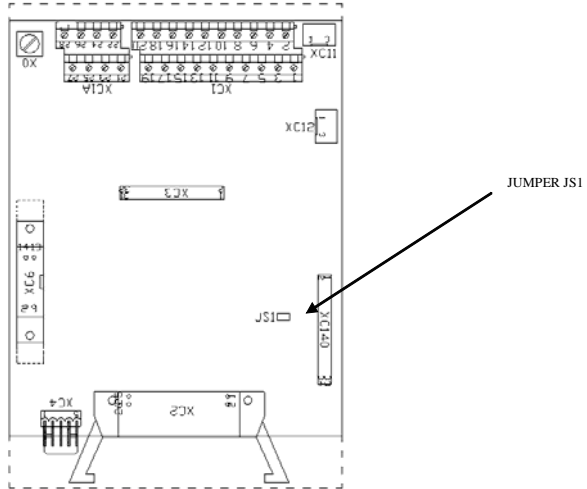

Figure 18 - Jumper JS1 on the CC9 control board
- Connect jumper JS1 on the CC9 control board (see Fig. 18);